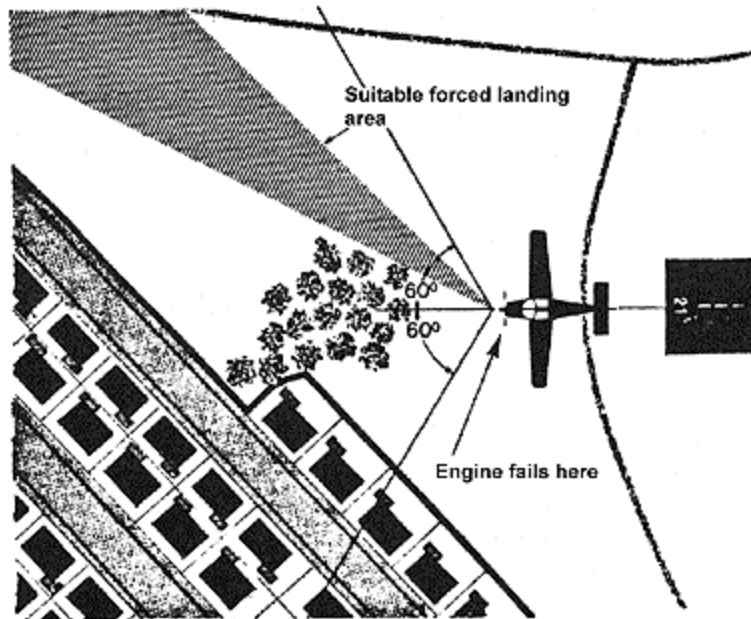

Figure 2-If engine fails at low altitude, it's reasonable to search for a suitable landing site up to 60 degrees either side of aircraft heading.
One of the reasons why some folks get uptight when they are told to land ahead if the engine quits after takeoff is because they feel denied the right to exercise their judgment. I would be the first to agree. To demand that the landing must be straight ahead would be pointless and potentially dangerous. Ahead may lie the biggest and densest housing development of all time. 10 degrees to one side could be an open field the size of JFK. Figure 2 illustrates the options available if you scan the relatively wide area contained within a 60 degree arc left and right of the takeoff path. There is no reason why the aircraft should not be maneuvered within those relatively far-ranging limits.
2. Look through an arc of about 60 degrees left and right of aircraft heading and select the best available landing area (see Figure 2);